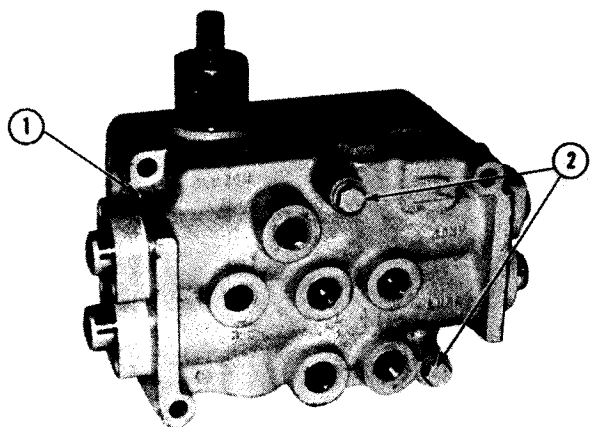
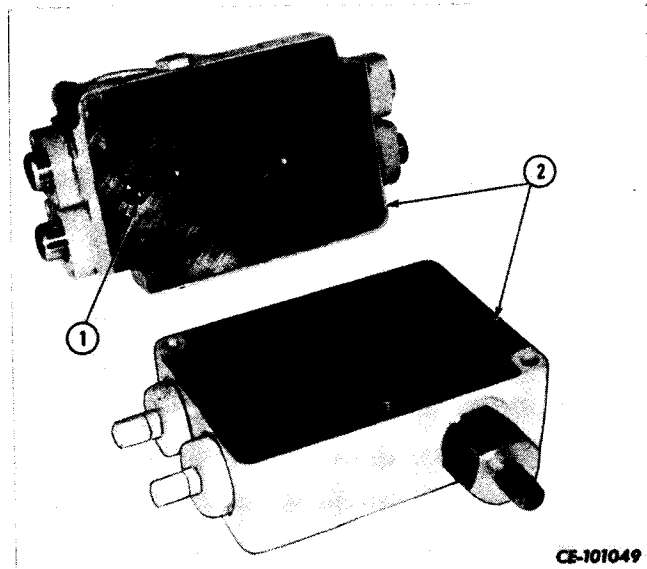

Figure 4-50
Figure 4-51
Remove cap screws (2, Fig. 4-50) that secure two halves of valve assembly (1) together.
Separate valve halves (2, Fig. 4-51) taking care not to damage finished surfaces of valves. Remove and discard "O" rings (1).
Install new lubricated "O" rings (1, Fig. 4-51) in valve recesses. Place two valve halves (2) together and secure with cap screws (2, Fig. 4-50).